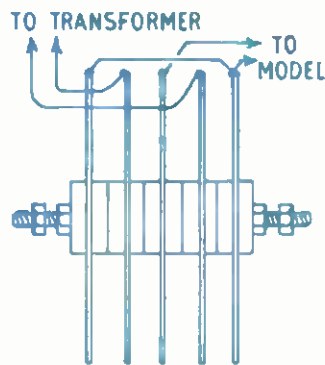

Fig. 4—Rectifier for D.C. Models
When direct current is wanted, a metal rectifier is added, as in Fig. 4. This is known as a 'full wave' rectifier, and has positive and negative (or red and black) tags, to take to the model. Two other tags, usually marked green, or (AC) are taken to the transformer secondary.